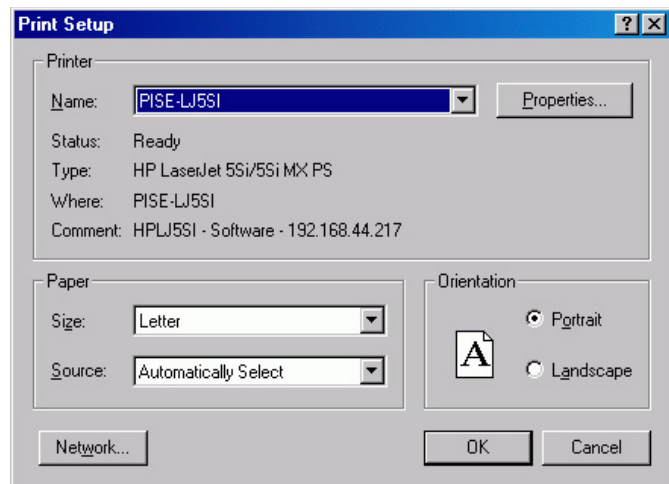

Figure 160. Print Setup dialog
1. Open the file you want to print. Make sure that window is the active one. From the File menu, open the Print Setup dialog (Figure 160).